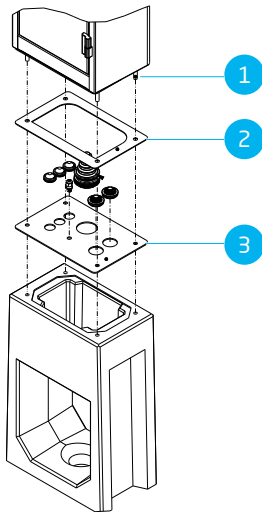

Figure 3.2: Exploded view of charging station to be mounted on base
4. Pass the earthing cable, coming from the earthing pin, through the base and swivel into the sealing plate (see position 3 in figure 3.2).
1. Insert the four threaded M10x80 mm rods supplied into the sockets on the base (see position 1 in figure 3.2).